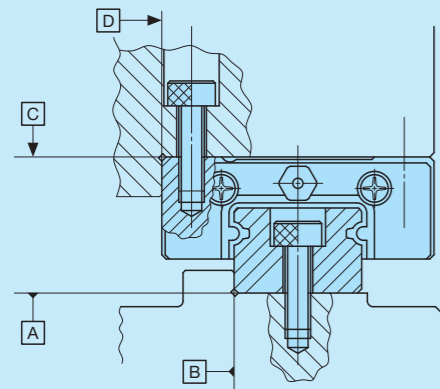

Fig. 2 Reference mounting surface and typical mounting structure
When mounting the ML(F) series and LWL(F) series, properly align the reference mounting surfaces B and D (D1 or D2) of the track rail and slide unit with the reference mounting surface of the table and bed before fixing them. (See Fig. 2) Reference mounting surfaces B and D (D1 or D2) and mounting surfaces A and C are precisely ground. By machining the mounting surface of the mating member, such as machine or device, to high accuracy and mounting them properly, stable linear motion with high accuracy is obtained.